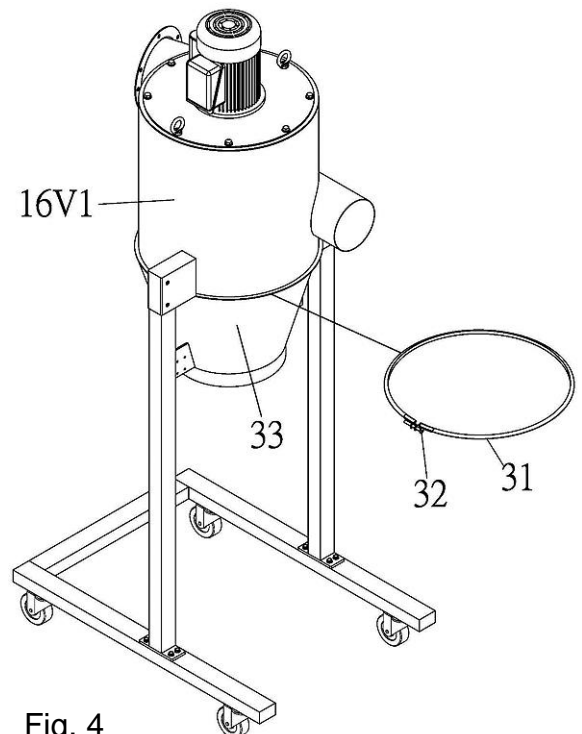

Fig. 4
6. Place the main housing (NO.16V1) and cone (NO.33), and then secure with cone clamp (NO.31) and hex head bolt 1/4" x 2-1/2" (NO.32). See (FIG.4).